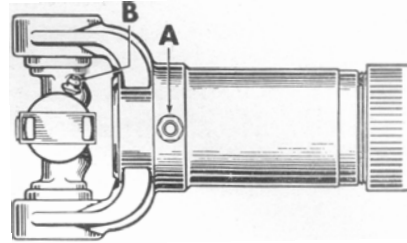

Figure 39
The propeller shaft is of tubular design incorporating needle roller bearing universal joints. The bearings located in the front and rear joints should be lubricated with viscous chassis lubricant during regular chassis lubrication at 1,000 mile intervals, through the fittings (B), Fig. 39.